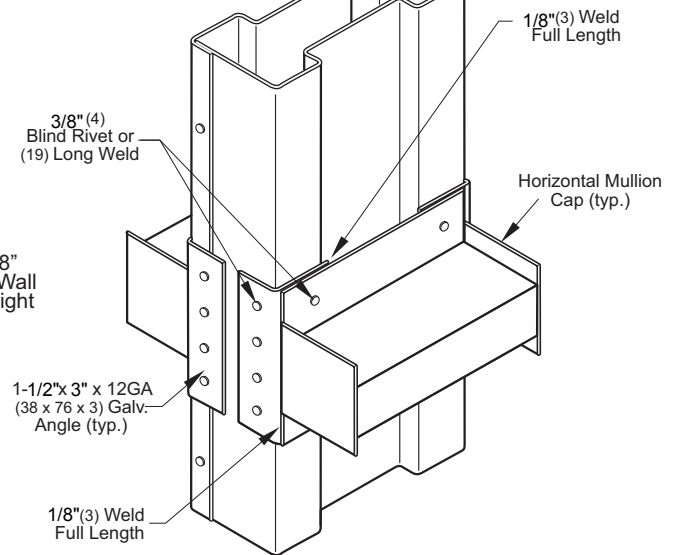

**Figure 3**
Drill holes in caps for anchoring. Set mullion caps with  $\frac{1}{4}$ " (6) - 20 x  $\frac{5}{16}$ " (8) steel screws (Construction Details fig. 3).